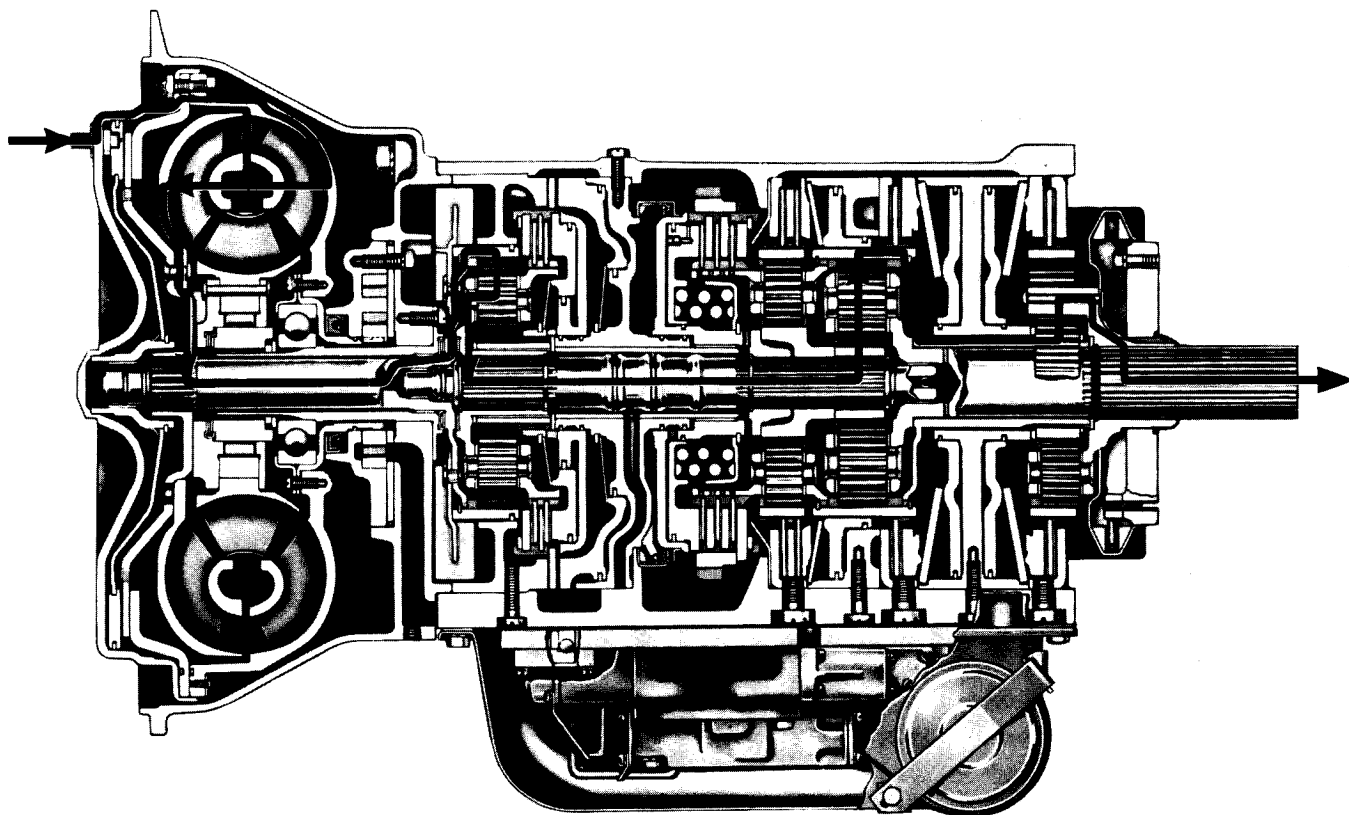

Fig. III-21 Reverse-gear power flow, converter
f. Reverse Range (fig. III-21). In reverse range, the splitter system is in low ratio (1.39:1). The reverse-range clutch is applied, holding the reverse-range ring gear stationary. The reverse-range sun gear is driven by the low-range ring gear which is driven by the low-range sun gear acting through the low-range pinions. The low-range carrier, although rotating, is the reaction member in the low-range planetary gear set. It